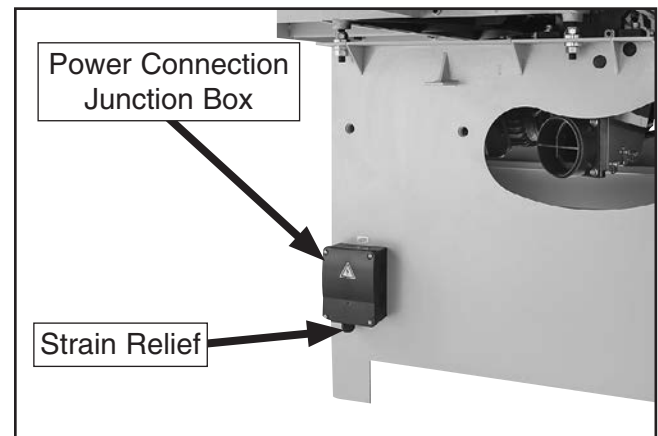

Figure 59. Power connection junction box location.
1. Remove power junction box cover shown in **Figure 59**.
2. Insert incoming power cord through strain relief at bottom of junction box (see **Figure 59**).